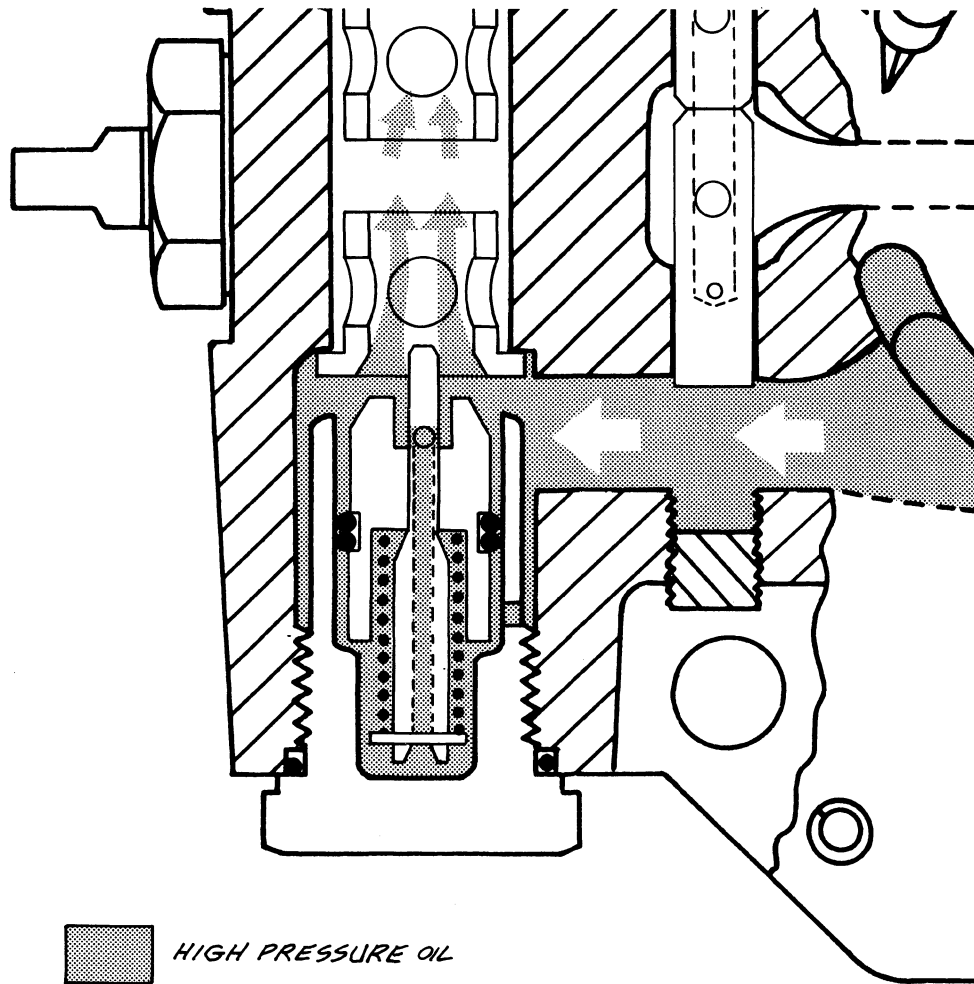

FIGURE 12
- (4) High pressure oil in the closed loop forces the valve body off the seat, Figure 12.